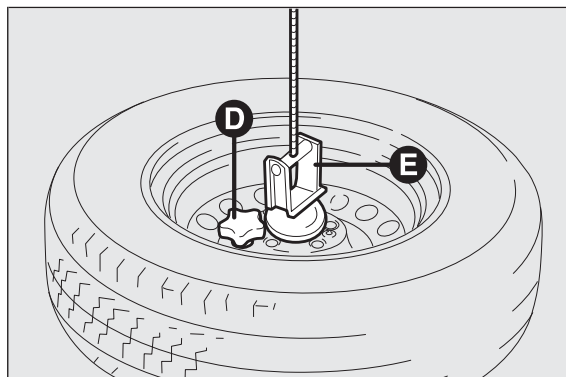

fig. 174
- ☐ unscrew the retaining knob D fig. 174 and release the wheel releasing the support E.
- ☐ take the removed wheel, re-attach to the mount E fig. 174 and tighten the knob D;